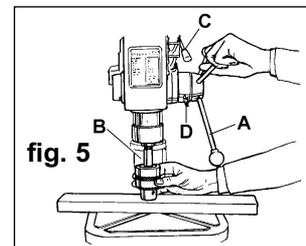
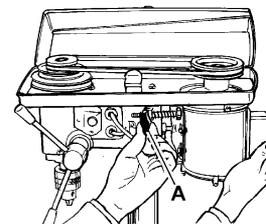

fig. 5
fig. 6
- 5.1.9. Screw the three feed handles and knobs to the hub of the pinion shaft (fig.5.A).
- 5.1.11. Insert thinner tapered end of arbor (fig.5.B) into drill spindle, fit chuck to protruding end of arbor and hold in place.
- 5.1.12. Turn feed handles to bring nose of chuck down onto wood (fig.5). Firmly pull on feed handle to seat arbor taper in spindle and chuck.
- 6.3.1. Open the pulley case and loosen the belt tension lock screws (fig.6.A).
- 6.4.1. With the belt tension lock screws (fig.6.A) loose and using hand pressure on the tensioning lever (fig.5.C), set tension so that belts give is no more than 1/2" (13mm). Tighten lock screws. Note that GDM250F has two lock screws, one each side of the head.
- 6.6.2. Loosen locking screw (fig.5.D) and set the scale to the depth required. Tighten locking screw.